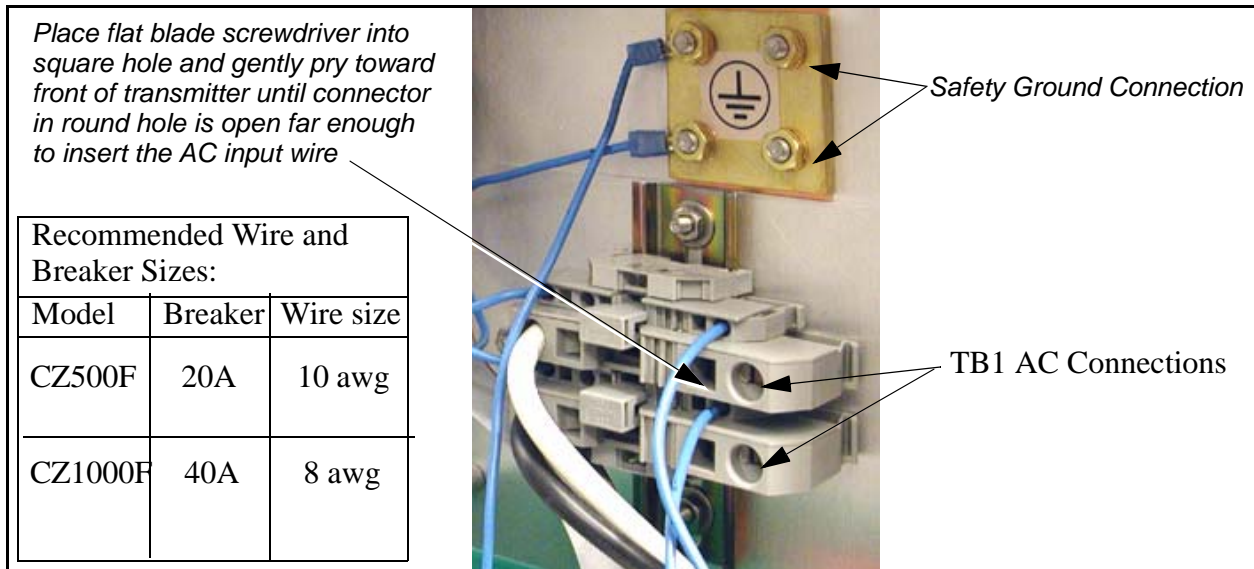

Figure 2-3 AC and Safety Ground Connections
- The Primary AC conduit is securely attached to the top of the transmitter cabinet.** The top of the transmitter cabinet has a pre-cut hole for a 3/4” conduit connection. For Conduit connections to the transmitter refer to the Transmitter Outline Drawing 843-5560-071, Top View. The AC input is the routed straight down to TB1, shown in Figure 2-3.
- The AC supply wires have been connected to TB1-2 and TB1-4.** The AC Flow diagram shows ac wiring to the transmitter along with recommended wire gauge and breaker size. **Wire gauge and breaker size are installed as outlined in the Figure 2-3.**